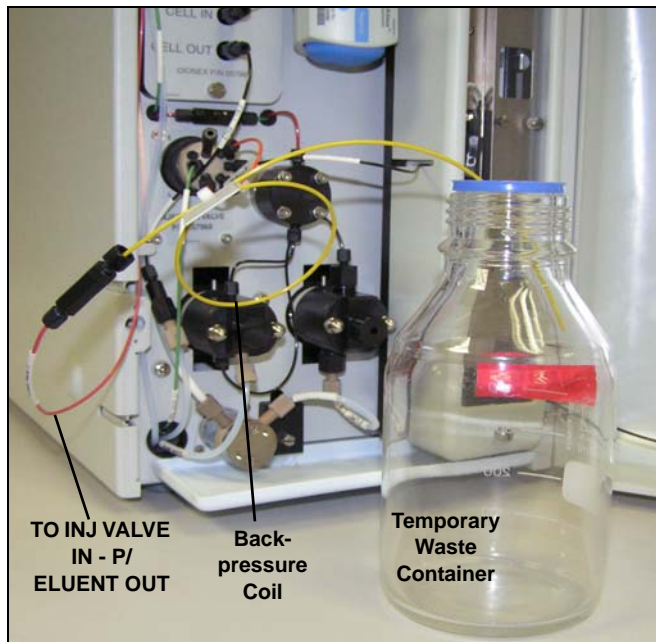

Figure 88. Plumbing Connections for Conditioning the Dionex EluGen Cartridge with Carbonate Eluent
10. Disconnect the **TO INJ VALVE IN - P/ELUENT OUT** line from port **P (2)** on the injection valve.
11. Use a 10-32 to 10-32 coupler (P/N 042627) to connect the **TO INJ VALVE IN - P/ELUENT OUT** line to one end of the yellow 0.5 mL/min, 7 MPa (1000 psi) backpressure coil (P/N 053765) (see Figure 88).